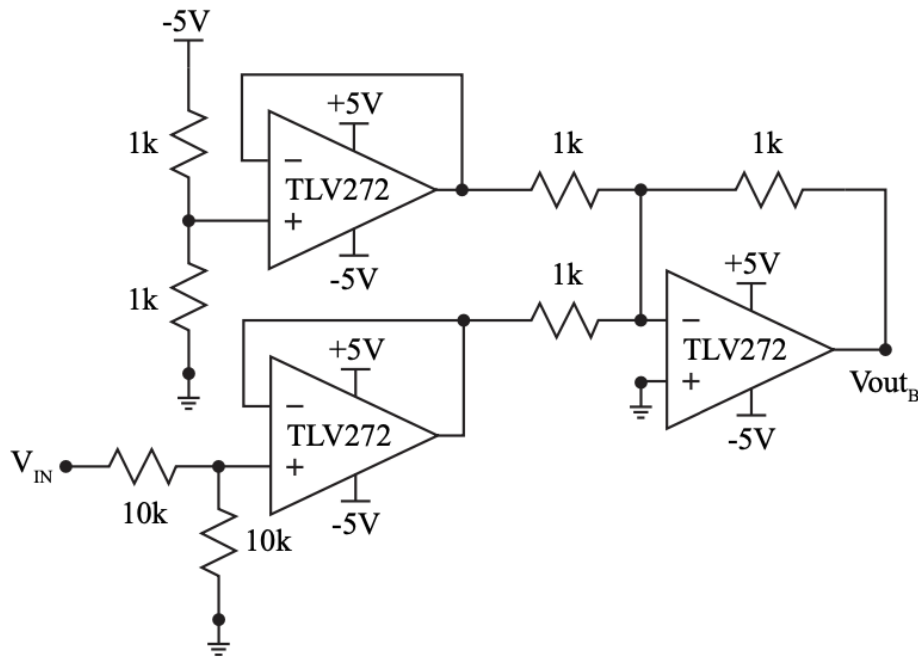

Figure 6.5: A DC level shifter configured to convert the full range of ± 5 V to +5/0 V.
5. In the more general case, the full range of input must be accounted for. Simulate the circuit in Figure 6.5 using a transient analysis with a stop time of 1m (.tran 1m). Set V_{IN} to a sine wave with a 0 V DC offset, 5 V amplitude, and a 1 kHz frequency. Save an image of the circuit and a plot of the input and output voltage.